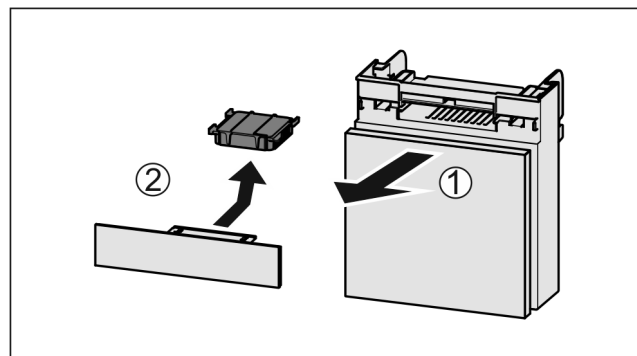

Fig. 182
- ▶ Pull out the compartment Fig. 182 (1).
- ▶ Remove the carbon filter Fig. 182 (2).